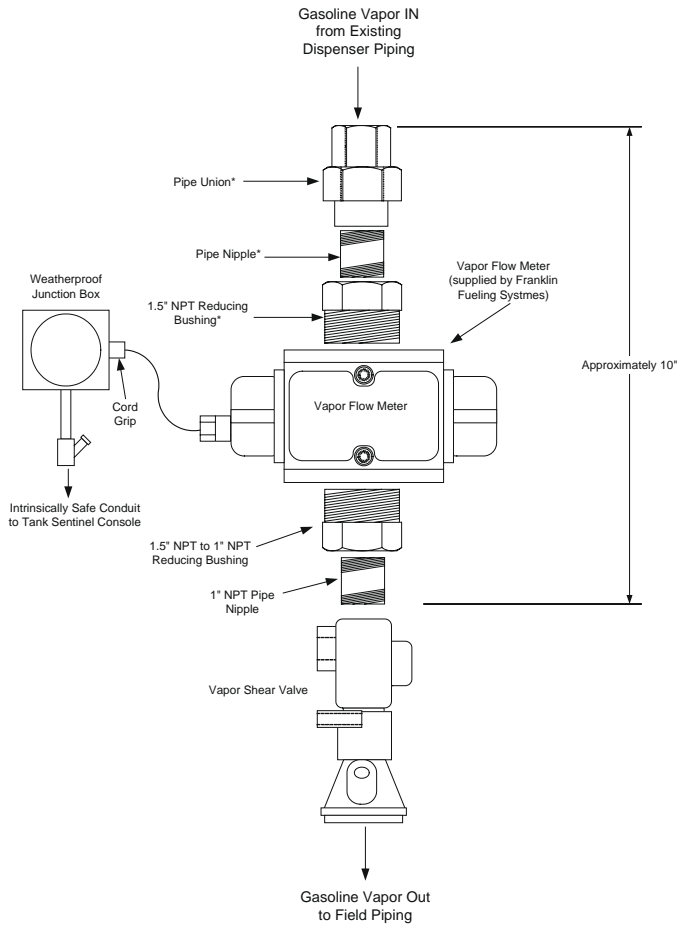

Figure 1
2. Refer to Figure 1 for reference.